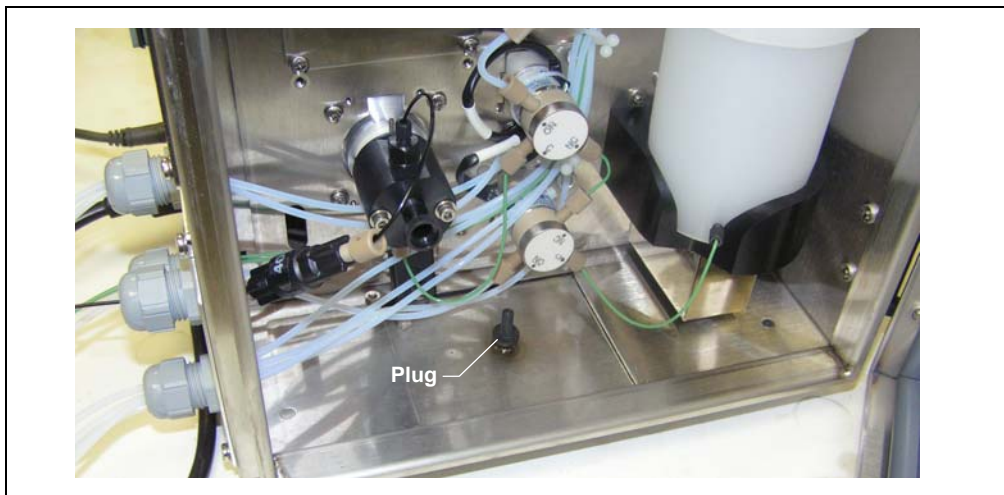

Figure D-13. Plug in SP Drain
- If an SP is installed, insert a plug in the drain inside the SP (see Figure D-13).